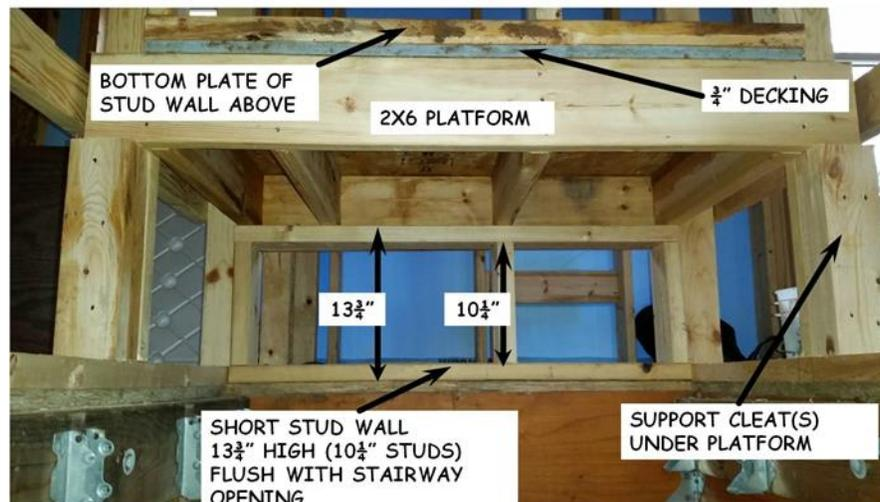

Figure 6-7. Closet Platform.
3. Build a 27”x40” platform with 2x6 joists (16” o.c.) and ¾” OSB decking as shown in Figure 6-7. The stairway opening is typically 40” wide. Adjust the platform width if necessary to fit between the walls. The 2x6 that bridges the stairway opening on the cantilevered end should be 46” long so that it can be firmly supported with blocking or a stud inside the adjoining walls. Check the location of the wall studs to be sure that the